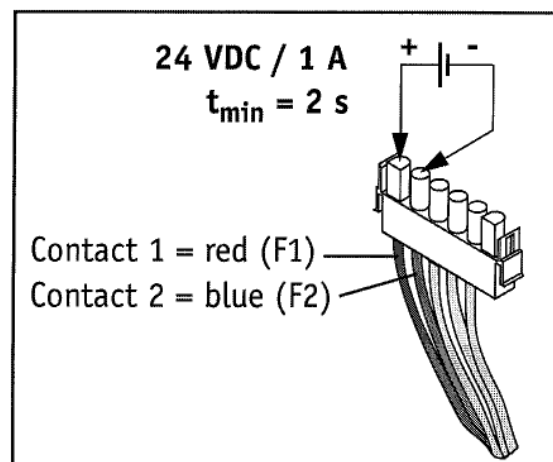

Figure 2
- On contacts 1 and 2 of the connector, supply the generator with DC voltage of 24 V (see Figure 2):